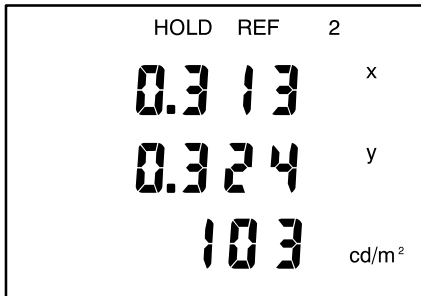

Figure 2-2: Selecting a Reference Memory Position
3. Repeatedly press the **DIFF/REF** button to select the desired reference memory location. The reference location is shown on the top of the display. See Figure 2-2. Readings can be stored only in reference locations 1 to 10.